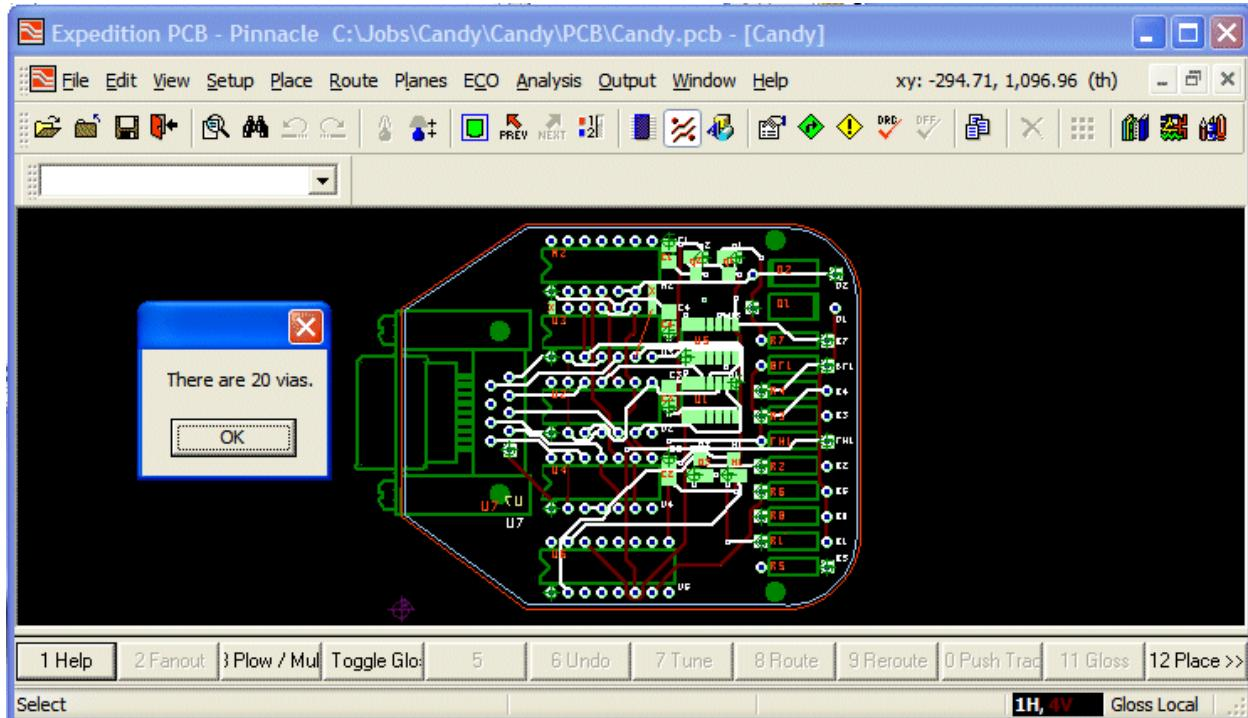

Figure 6-4. Using the View > Via Count command to run the *ViaCount.vbs* script.
- 6) Now we want to test this new menu button/item to check that it does indeed run our *ViaCount.vbs* script. If you had not already opened a layout design document in point (2), then this would be the time to do so.
- 7) Click the View menu item and then select your new button/item and observe that it does indeed launch your *ViaCount.vbs* script as illustrated in Figure 6-4.